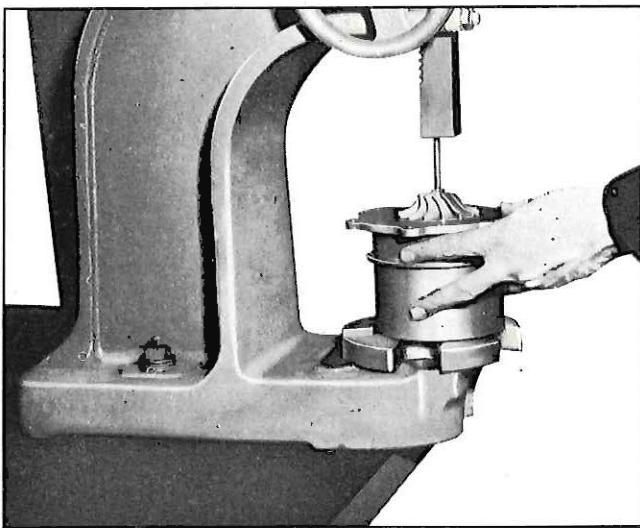

Fig. 23—Pressing Turbine Shaft from Impeller
3. Support the supercharger in a press (using parallel blocks or support ring Tool J-21004, Figure 23) with the impeller wheel upward.
5. Place a  $\frac{1}{4}$ " diameter brass rod on the end of the turbine shaft (fig. 23) and press turbine shaft from impeller wheel.